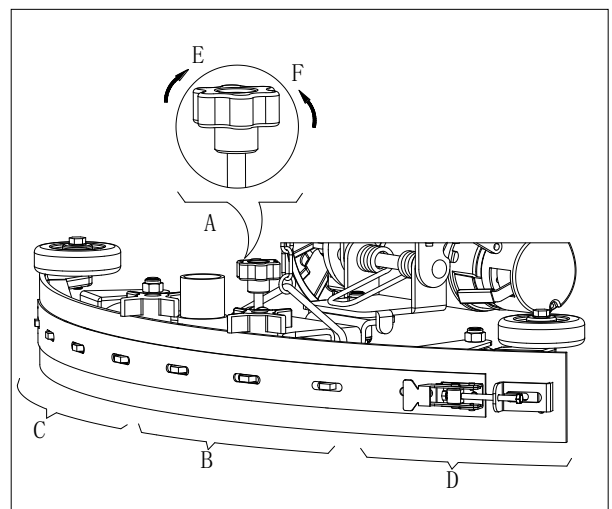

Figure 7
1. Install the squeegee (13) and fasten the squeegee knob (20), then connect the vacuum hose (19) to the squeegee.
2. Adjust the squeegee by squeegee adjusting handle (A, Figure 7).
- a) If there is gap between the ground and middle section of rear squeegee blade (B), adjust the knob (A) in counterclockwise direction (F) until all section of rear squeegee blade good contact with ground, the front blade touch the ground slightly.
- b) If there is gap between the ground and both end section of rear blade(C and D), adjust the knob (A) in clockwise direction (E) until all section of rear blade good contact with the ground, the front blade touch the ground slightly.